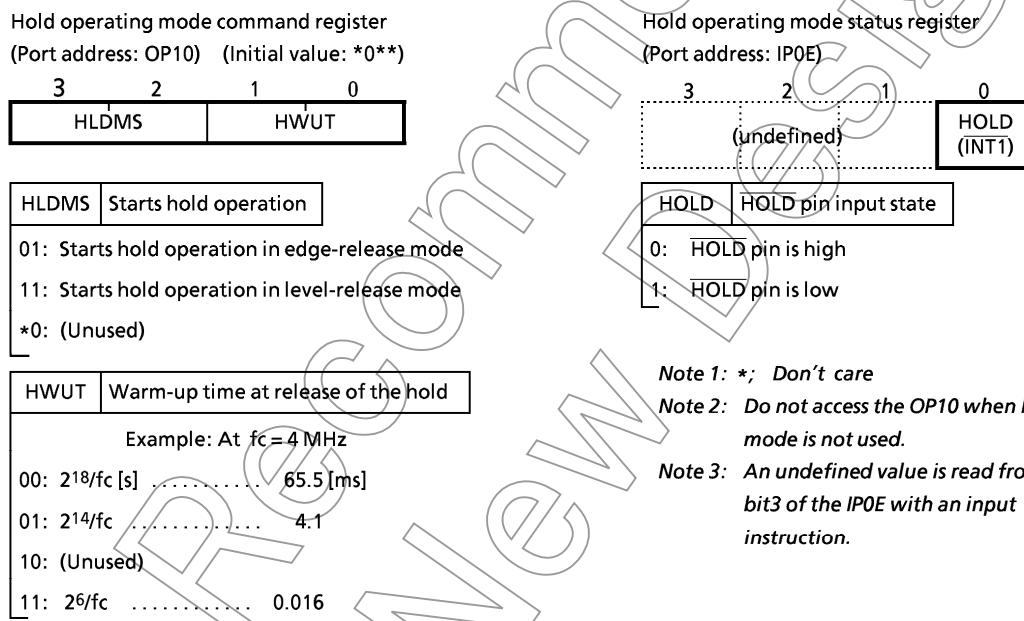

Figure 2-18. Hold Operating Mode Command Register / Status Register
- ① The oscillator starts
- ② Warm-up is performed to acquire the time for stabilizing oscillation. During the warm-up, the internal operations are all stopped. One of three warm-up times can be selected by program depending on the characteristics of the oscillator used.
- ③ When the warm-up time has passed, an ordinary operation restarts from the instruction next to the instruction which starts the hold operation.
- * The warm-up time is obtained by dividing the basic clock by the interval timer, so that, if the frequency at releasing the hold operation is unstable, the warm-up time shown in Figure 2-18 includes an error. Therefore, the warm-up time must be handled as an approximate value. The hold operation is also released by setting the RESET pin to the low level. In this case, the normal reset operation follows immediately.